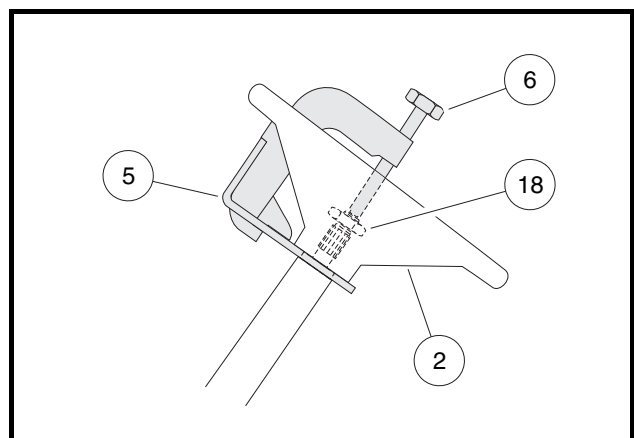

Figure 7-2 Steering Wheel Puller
- 6.3. Rotate the anvil screw (6) clockwise until the base plate contacts the bottom of the steering wheel at the steering column (**Figure 7-2, Page 7-1**).